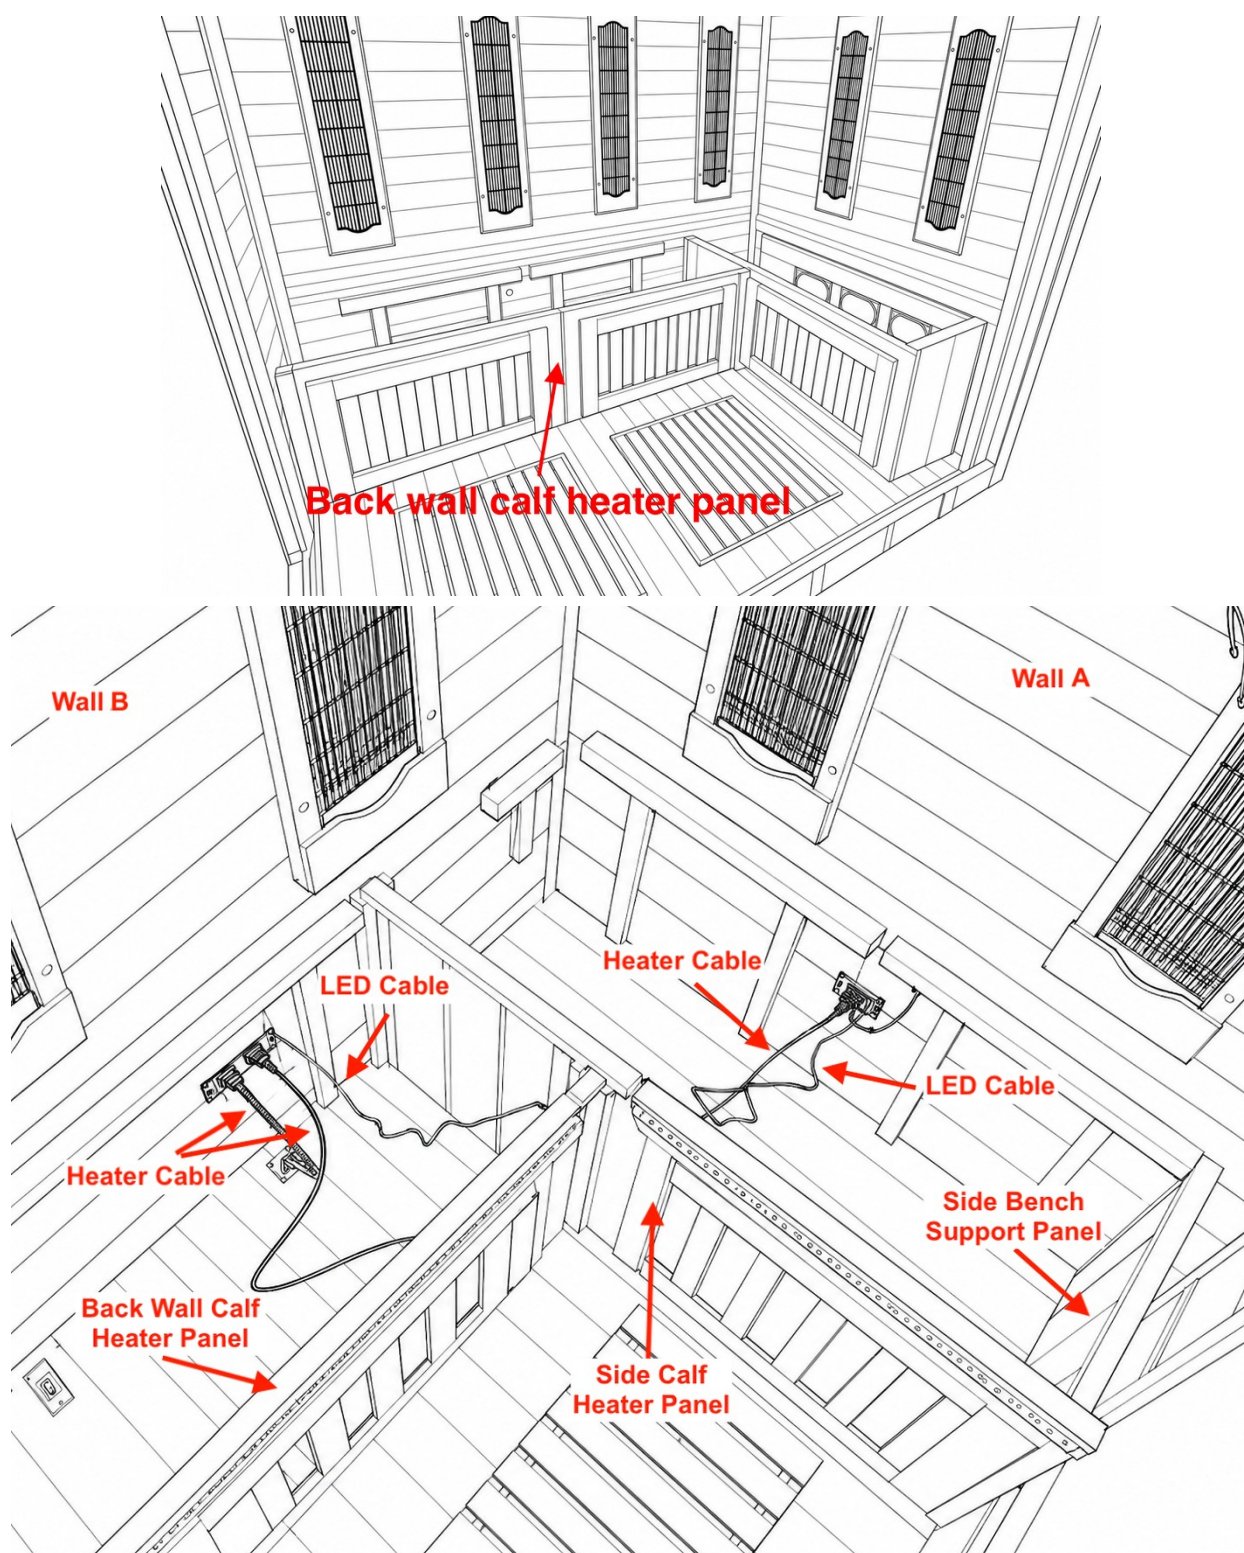

Figure 17. Back wall calf heater panel along Wall B (top) and calf panel cabling (bottom).
- Position it parallel to Wall B, resting in the slot on Wall D at one end and against the side calf heater panel at the other (Figure 17).